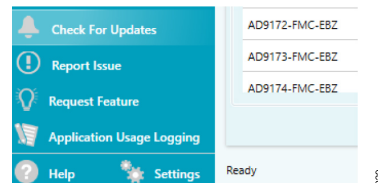
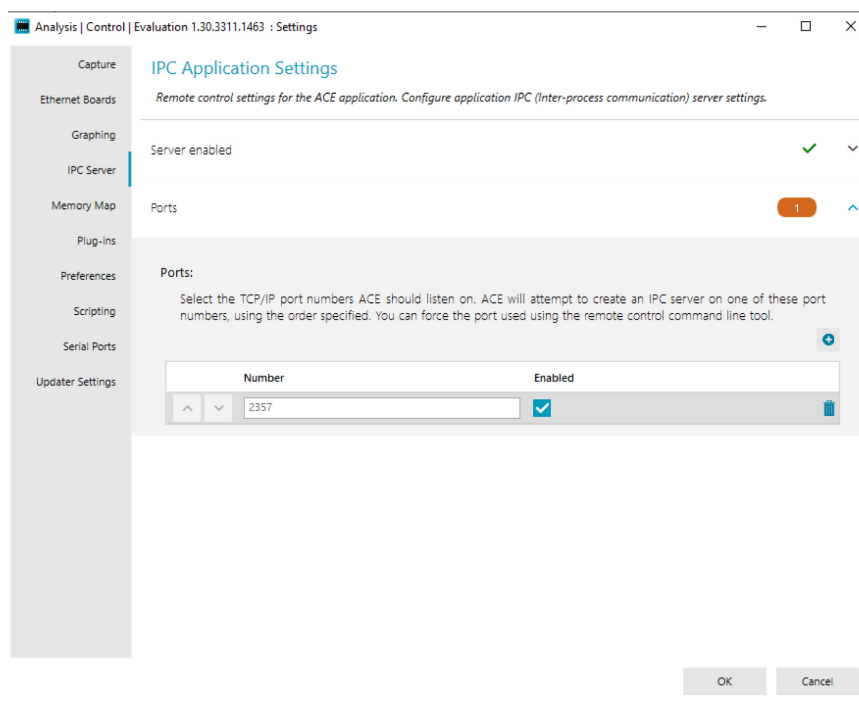

Figure 29. Settings Button on the Bottom Left Menu Pane in ACE
Figure 30. IPC Server Required Settings
2. Launch the ACE software. Click on the **Settings** button (Figure 29), then click **IPC Server** in the left menu pane. Make sure the **Server enabled** is checked, the ports have the **Number** 2357, and **Enabled** is checked (Figure 30).